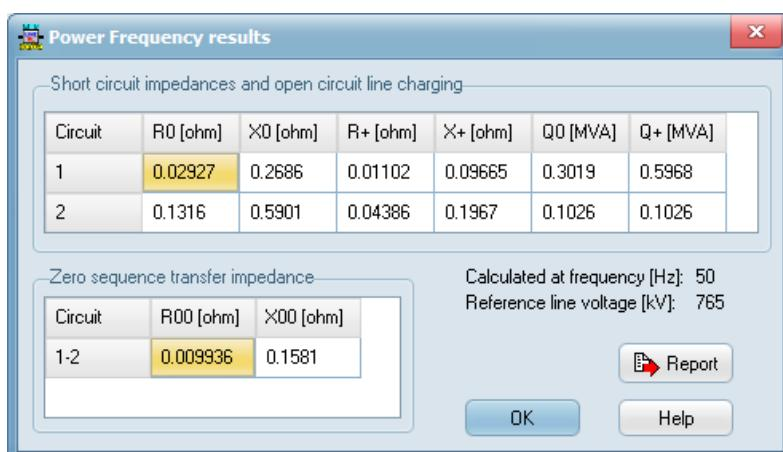

Fig. 5.42 - Results of the PFC run.
b) Select PFC: For the PFC test the user must specify the power frequency and the base voltage level for scaling of the reactive charging. Clicking on *OK* will result in the generation of a PFC data case called `xVerifyF.dat` and execution of ATP based on the settings of the ATP-Command (*Tools / Options / Preferences*). In this case, each circuit is tested individually (all other phases are left open while a specific circuit is tested). The library file describing the electrical model of the line/cable is included in a new ATP case and supplied by unity voltage or current sources in order to calculate the steady state short circuit impedances and open circuit reactive line charging. The file `xVerifyF.lis` is read by ATPDraw and the short circuit impedances together with the open circuit line charging is calculated in the zero-sequence and positive-sequence mode. The results of the calculations are displayed in Fig. 5.42 .
If the user clicks on *Report* the content in the string grids of Fig. 5.42 will be dumped to a user selectable text file. Further details about the operation of the *Verify* feature and PFC option can be found in the Appendix part of the Manual.